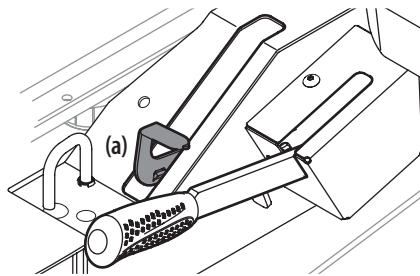

Figure 38
- Engage the transmission bypass valves by pulling the bypass lever (a) upward and all the way back. See Figure 38.
- To release the bypass lever (a), push the lever forward. See Figure 38.